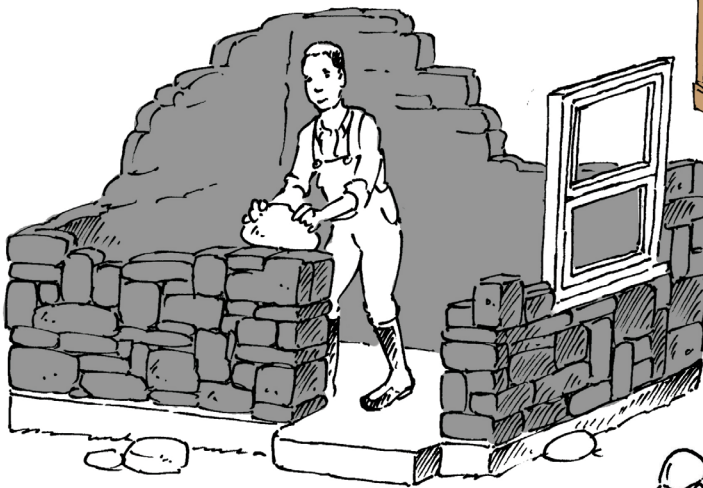

Figure 10: House C
- What material is being used to build the house in Figure 10?
- What tools are being used by the people building the house in Figure 10?